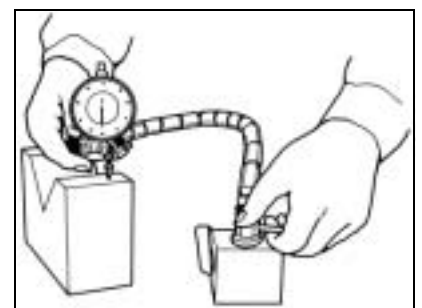

Fig. 4
- Adjust the degree of pole flexure and the measuring tool orientation so that the pole can be clamped with the handle at the clamp position while rotating the adjusting sleeve. (see Fig.4)